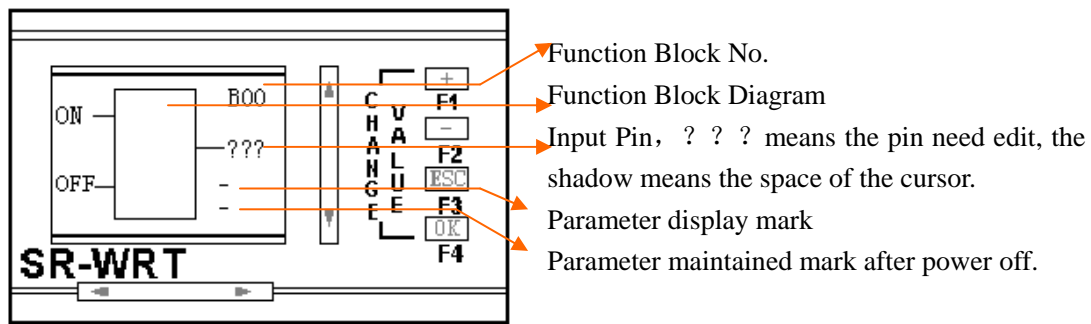
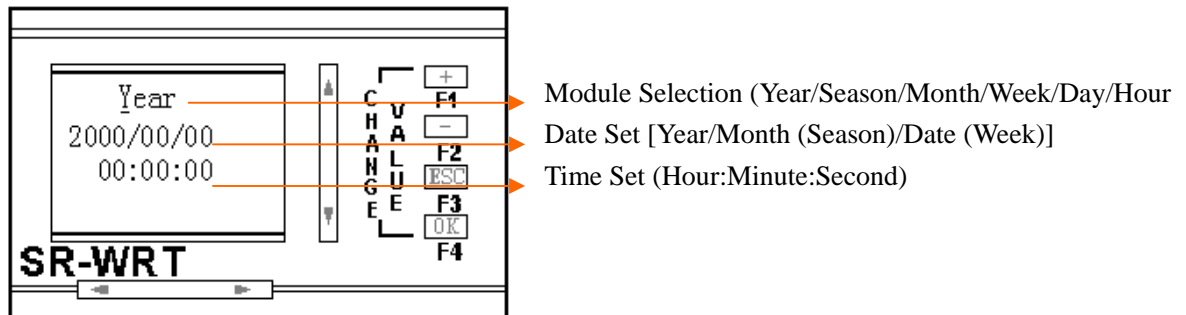
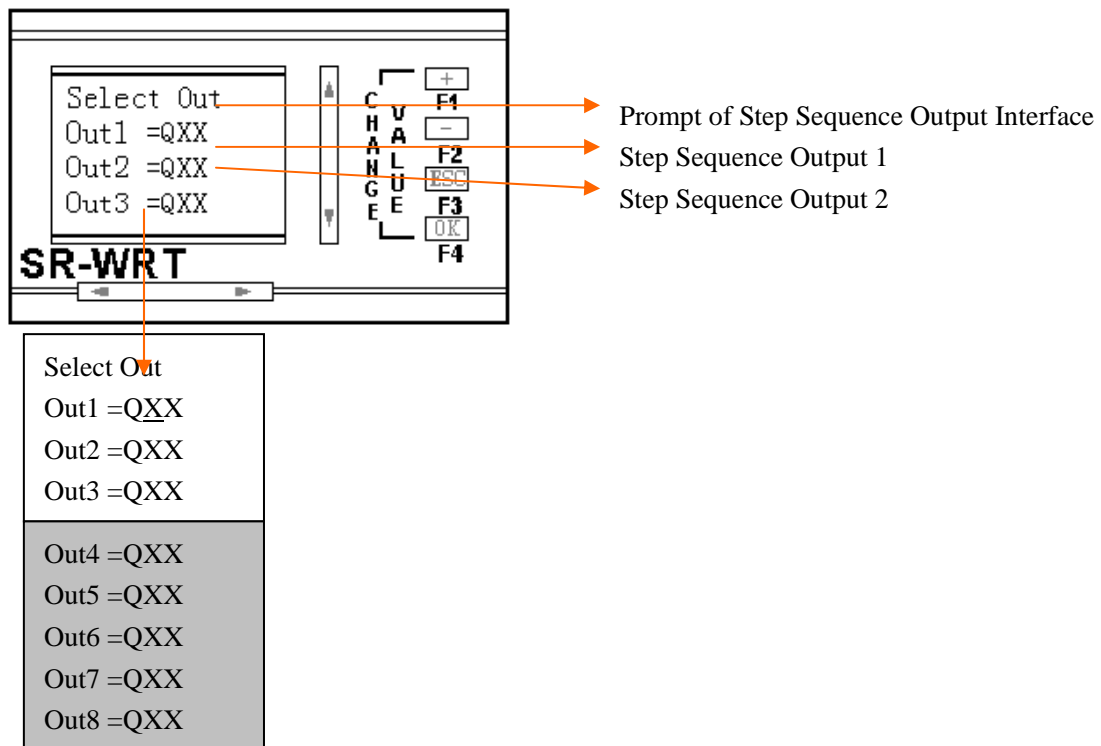

Fig. 10.31 Function Block Edition Interface
Fig. 10.32 Clock Time Edit Interface
Fig. 10.34 Step Sequence Output Edit Interface
1. Select the function. In Fig. 10.7, move ">" before 17 SCHD and press OK to enter Fig. 10.8. Move ">" before YES and press OK key to enter Fig. 10.31, Function Block Edition Interface.
In Fig. 10.31, B00 is the sequence No. of the function block, which is produced automatically in programming and is not able to be edit. The ON of the left side means the space to modify the ON date and the OFF of the left side means the space to modify the OFF date.
3. Select and Edit Point ON: The cursor "█" will also appear in M00. It is need to edit the ON time. Press OK key and cursor will change from "█" to "_". Press LEFT, RIGHT key, the cursor will be moved under OFF. Press UP, DOWN key, the cursor will be moved under ON. Now the cursor is "_". Press OK key, Fig 10.32, Clock Time Edit Interface will be displayed.
In Fig. 10.32, "_" is the cursor. The space of the cursor can be changed via UP, DOWN, LEFT, RIGHT and the data or module of the cursor can be changed via +, -. In Fig. 10.32, change the YEAE into DAY and change time to 6:30, thus the time of ON is set. Press OK key to return to Fig. 10.31. But at this time the cursor will be "█" and be on the "O" of ON. The input of this point can be selected via +, -. If "-" is selected, which means this point is not used. If this point is needed, select "On" and press "OK" key, change cursor to "_". Then select and edit other points.
finished via the above steps. Press ESC, all the points are edit correctly and return to Fig. 10.7. Otherwise the wrong points will be displayed in Fig. 10.31 as “???”. And the cursor will be in the first “?” as the form of “■” and wait for the edition. And the mistakes at this space including the following three points:
Select and Edit B01: Via the above procedure, select function block 17SCHD. Through the confirm in Fig. 10.8, it will enter Fig. 10.31, function block edition interface. But the B00 is changed into B01, which means the function block edited is the second function block. Using the methods when editing B00, edit B01 as M01, ON time as 17:30, OFF time as 21:30. After edition, press ESC key to return to Fig. 10.7.
Select and Edit B04: Using step 1 to select function block 22 SSEQ. Through the step 2, edit the first input port of B04 as M02. After confirmation, through step 3, move cursor to the second input port and edit it as LO. Through step 3, move cursor to the first output port “OUT” at the right side. At this time the cursor will be “_”. Press OK key to enter Fig. 10.34, Step Sequence Output Edit Interface.
In Fig. 10.34, Step Sequence Output Edit Interface, “_” is the cursor. The step sequence can be edit via UP, DOWN, and the space of the step sequence can be edit via LEFT, RIGHT. Notes: Q cannot be selected. Only XX can be selected and edited. Change the data of the cursor via +, -. Change QXX to the output we needed. In edition procedure, please be attention the following notes. 1. When editing the step sequence, the output of the above step sequence cannot be as QXX. It must be on detailed output. If we want to edit Out 4 =QA3, then the output port of Out1, Out2, Out3 cannot be QXX. They must be the detailed output, for example, Out1=QA0, Out2=QA1, Out3=QA2 and so on. 2. To be convenient to the user, we design the menu as circle menu. For example, in Fig. 10.31, if the cursor in the second line of the WRT (caused by the first action prompt). The symbol of the above step sequence is Out1. Now Out8 is needed to be edited. Pressing DOWN eight times is too trouble. Directly press UP key one time. The cursor will be on Out8 directly and user can edit.
According to the above methods, edit the eight outputs of the step sequence as Out1 =QA0, Out2=QA1, Out3 =QA2, Out4 =QA3, Out5 =QA4, Out6 =QA5, Out7 =QA6, Out8 =QA7. Press OK or ESC key. If the output ports of the eight step sequence are not as the same as the outputs of the above function blocks. It will enter the function edition interface. Otherwise, the same output ports will be displayed in Fig. 10.34 as Q?? and the cursor will be on the first ? for the user to finish the edit. In function block edition interface, through step 6 to return to Fig. 10.7, thus the edition of B04 is finished.